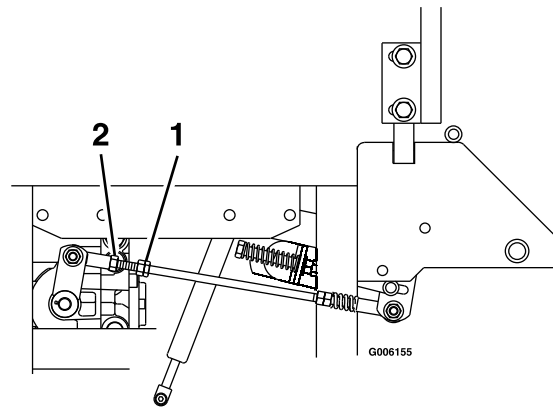

Figure 21
5. Loosen lock nuts from the ball joints at each end of the pump control linkage (Figure 21).
8. Bring the motion control lever into the neutral position. Adjust RH pump control rod length by rotating the double nuts on the rod in the appropriate direction until the wheels slightly creep in reverse (Figure 21). Move the motion control lever to the reverse position and while applying slight pressure to the lever allow the reverse indicator spring to bring the levers back to neutral. The wheel must stop turning or slightly creep in reverse. When adjustment is complete, tighten lock nuts onto ball joints.